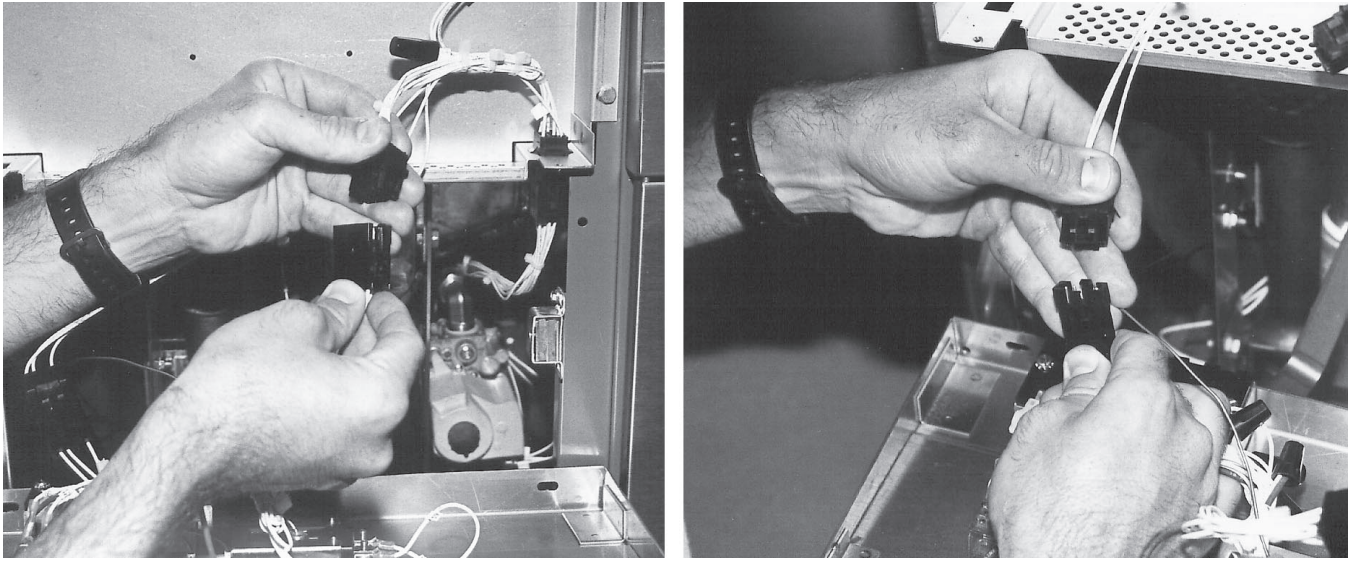

Fig. 8
5. Disconnect the main and basket lift (if applicable) wire harness and carefully remove the panel from the fryer. (Figs. 8)
2. Disconnect limit and basket lift wire harnesses inside the control housing. (See Figs. 8)